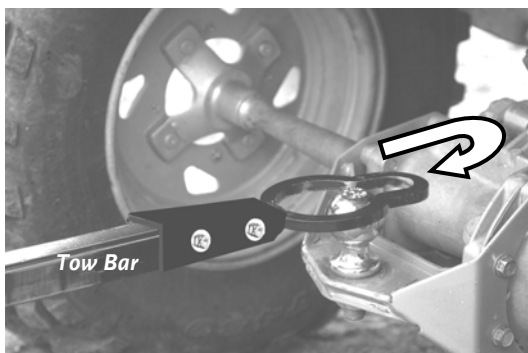

Figure 15
1. Stop the engine and put the transmission in 1st gear. Set the parking brake on your ATV (if you have one), lift the Tow Bar on the DR POWER GRADER and slip the Keyhole Hitch over the Hitch Ball on the ATV (**Figure 15**); pulling back on the Tow Bar so the slot in the Keyhole Hitch fits around the Hitch Ball Shaft.